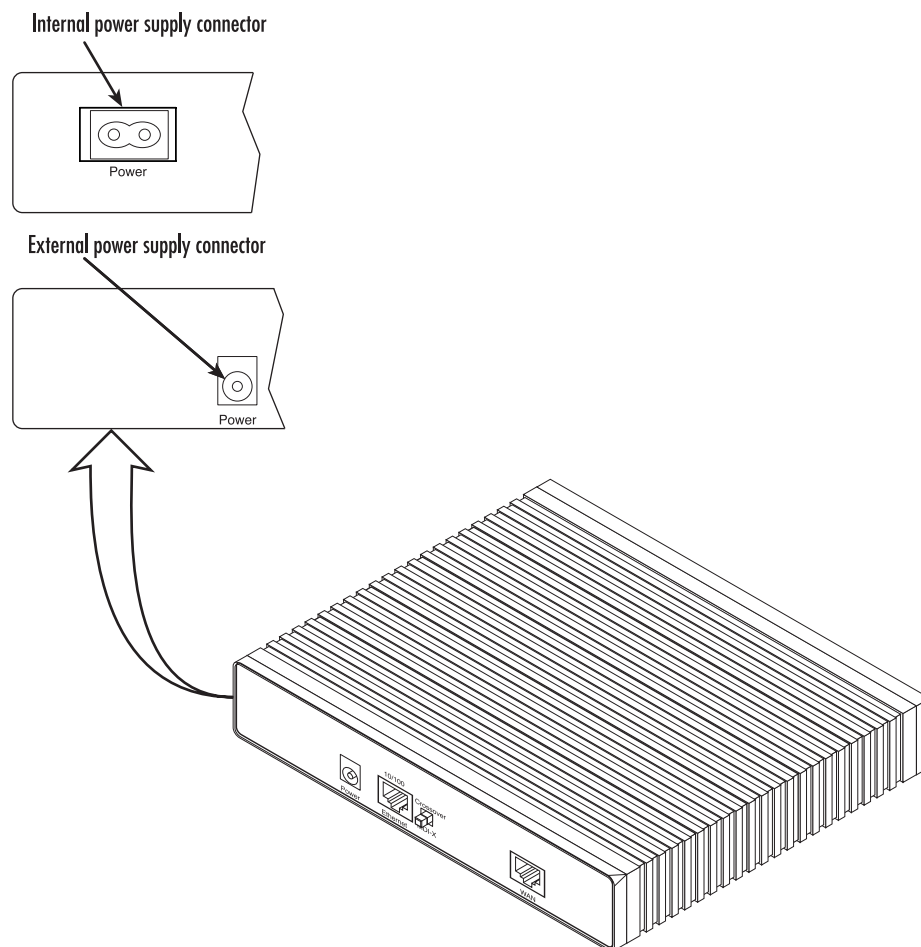

Figure 12. Power connector location on rear panel (Model 2603/T shown)
1. If your unit is equipped with an internal power supply, go to step 2. Otherwise, insert the barrel type connector end of the AC power cord into the external power supply connector (see figure 12).
2. Insert the female end of the AC power cord into the internal power supply connector (see figure 12).